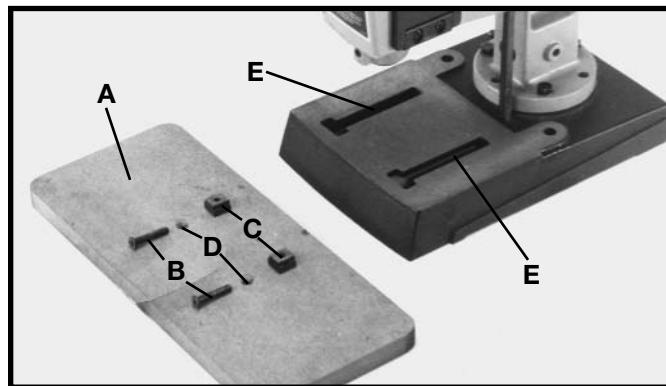

Fig. 7
1. Assemble the table (A) Fig. 7, to the base using the two M6x1x35mm flat head screws (B) and T-nuts (C). Insert the two screws (B) into the two holes (D) in table (A). Place the two T-nuts (C) into the slots (E) provided in the bottom of the base and tighten the two screws (B) into the two T-nuts (C) securely.
2. The table (A) Fig. 7, can be moved in or out by loosening the two screws (B), and re-positioning the table, and then tightening screws (B).